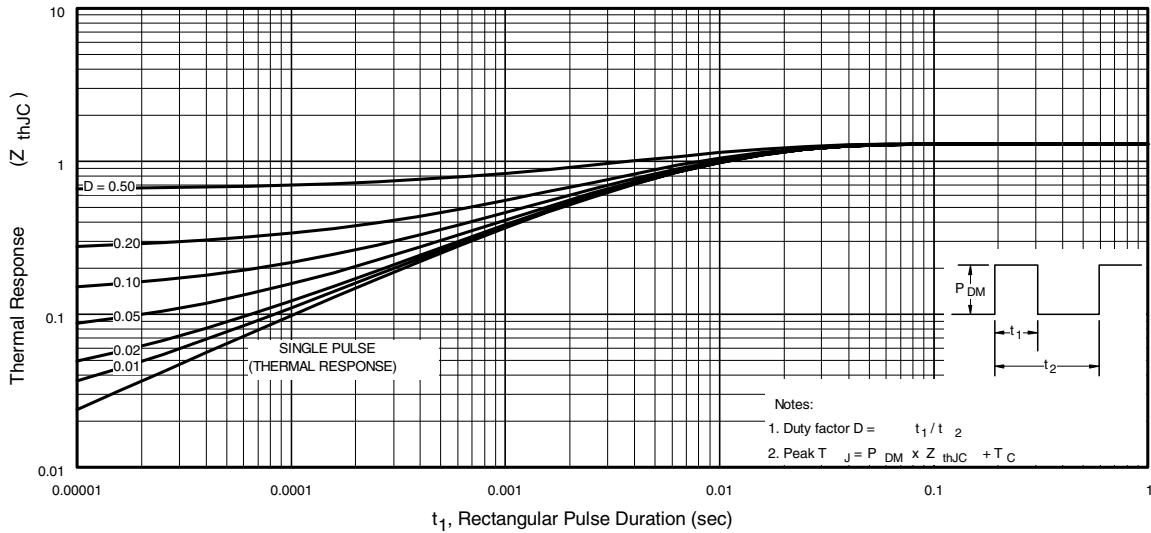
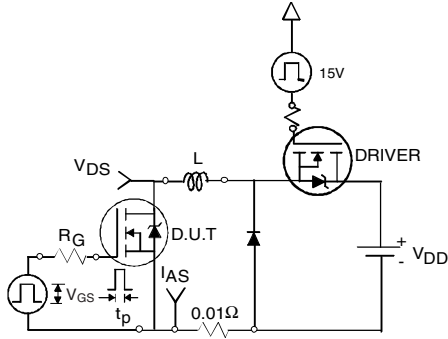

Fig 11. Maximum Effective Transient Thermal Impedance, Junction-to-Case
Fig 12a. Unclamped Inductive Test Circuit
3. Equation below based on circuit and waveforms shown in Figures 12a, 12b.
$Z_{thJC}(D, t_{av})$ = Transient thermal resistance, see figure 11)
- ① Repetitive rating; pulse width limited by max. junction temperature. (See fig. 11).
- ② Limited by T_{Jmax} , starting $T_J = 25^\circ C$, $L = 0.45mH$, $R_G = 25\Omega$, $I_{AS} = 30A$, $V_{GS} = 10V$. Part not recommended for use above this value.
- ③ $I_{SD} \leq 30A$, $di/dt \leq 280A/\mu s$, $V_{DD} \leq V_{(BR)DSS}$, $T_J \leq 175^\circ C$.
- ④ Pulse width $\leq 1.0ms$; duty cycle $\leq 2\%$.
- ⑤ C_{oss} eff. is a fixed capacitance that gives the same charging time as C_{oss} while V_{DS} is rising from 0 to 80% V_{DSS} .
- ⑥ Limited by T_{Jmax} , see Fig.12a, 12b, 15, 16 for typical repetitive avalanche performance.
- ⑦ This value determined from sample failure population. 100% tested to this value in production.
- ⑧ When mounted on 1" square PCB (FR-4 or G-10 Material). For recommended footprint and soldering techniques refer to application note #AN-994.